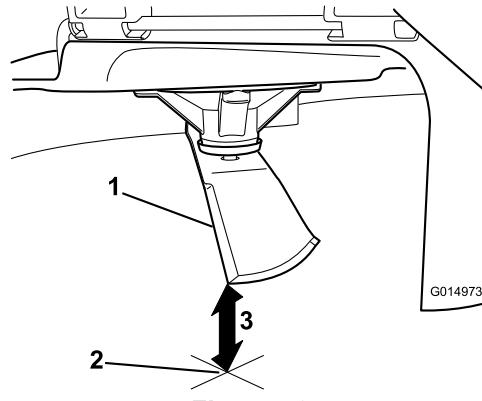

Figure 49
- Measure from the tip of the blade to the flat surface (Figure 49).